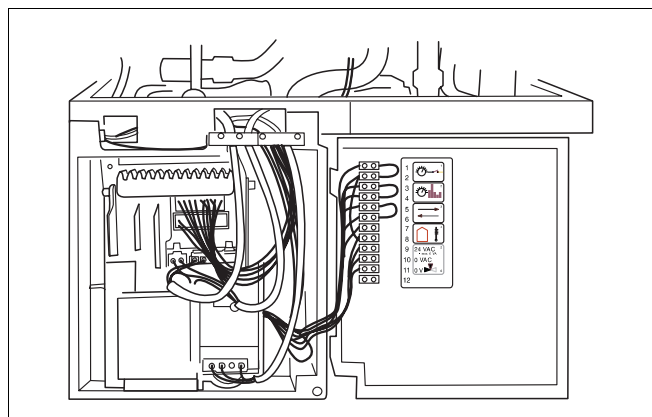

Fig. 52 Opening the UBA housing
- Open the UBA housing (fig. 52).